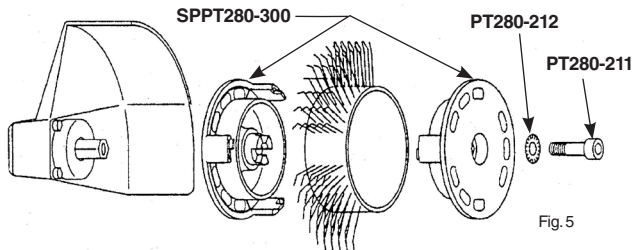

Fig. 5
- 3 - Assemble the abrasive belt to the tool correctly with the adapter and the specific screw. See Fig. 5. Be sure the brush bristles are facing in correct direction for rotation of the tool. See page 7.